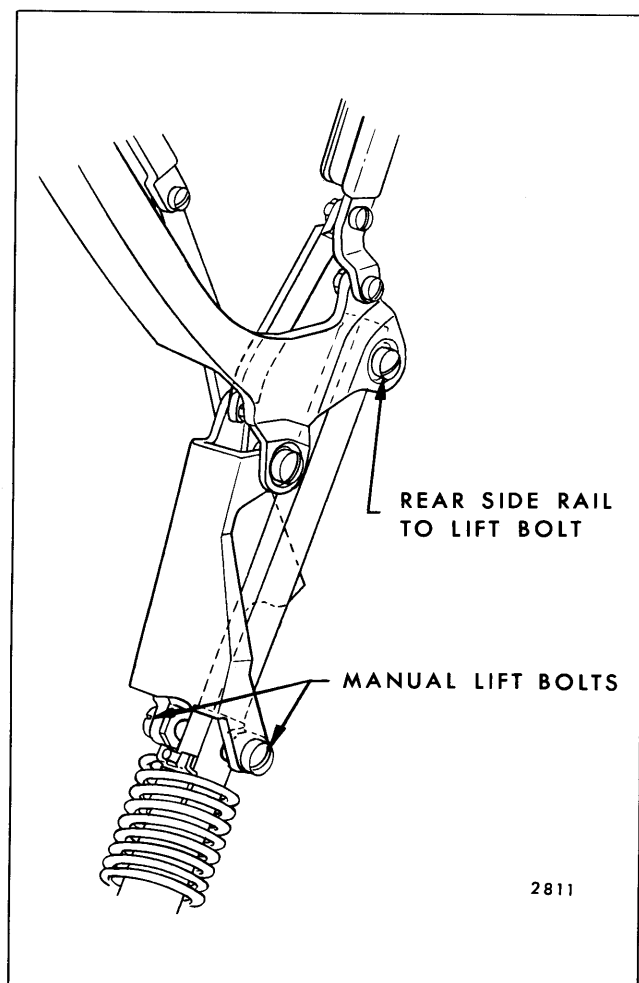
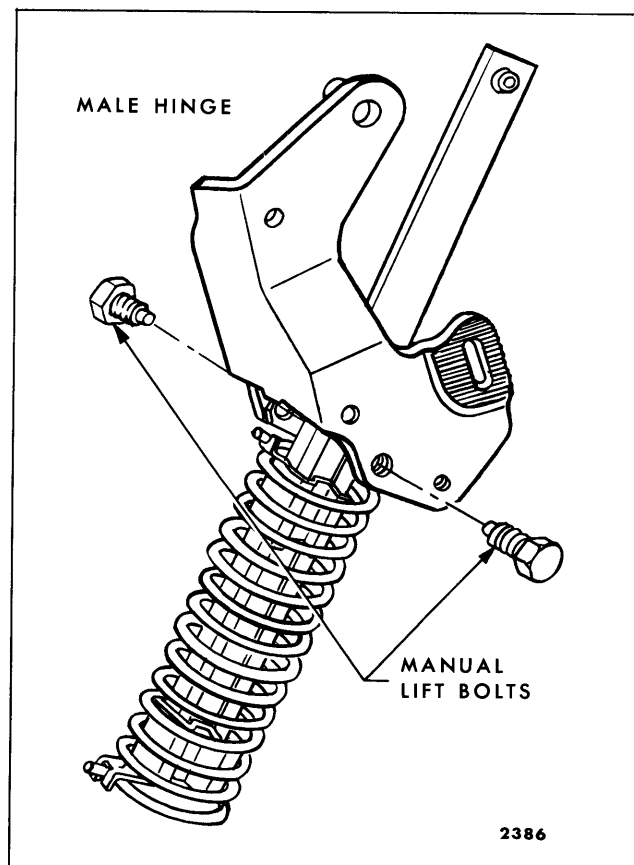
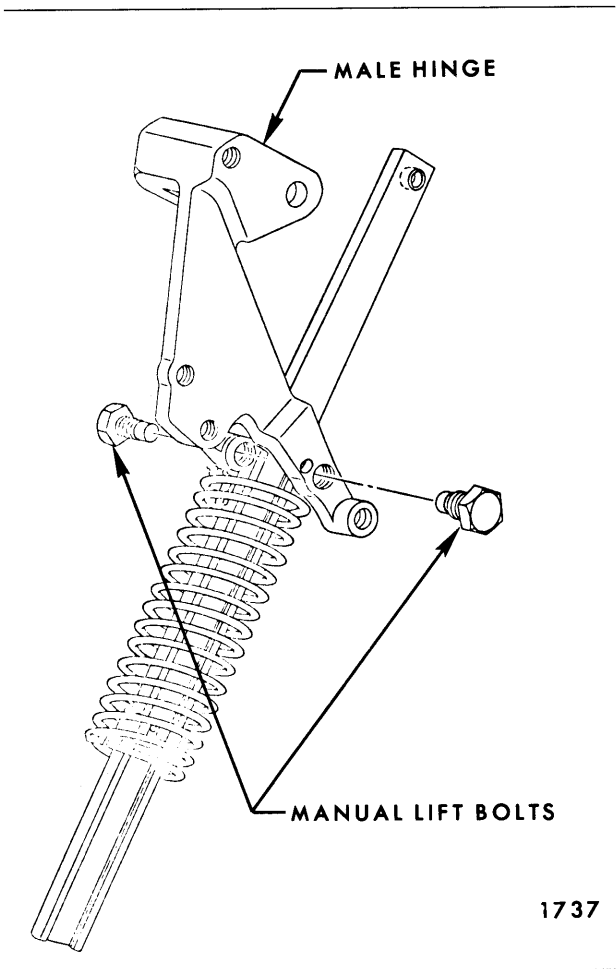

Fig. 13-73—"A" Body Manual Lift Assembly
Fig. 13-74—"F" Body Manual Lift Attachment
Fig. 13-75—"Z" Body Manual Lift Attachment
4. On "F & Z" bodies, remove inner and outer bolt securing lift assembly to male hinge; then remove assembly from body. On "A" bodies, remove inner bolt and slightly move lift assembly inboard and remove. (Fig. 13-73 for "A" body, Fig. 13-74 for "F" body, and Fig. 13-75 for "Z" body.)